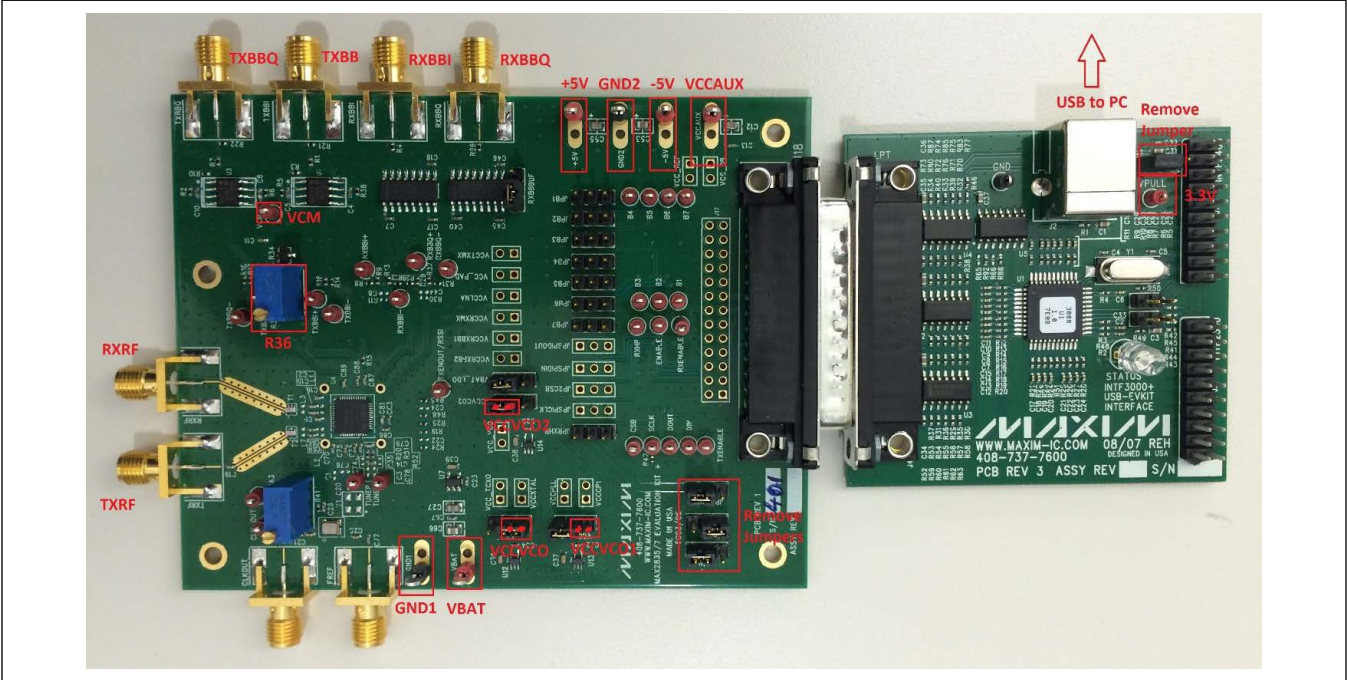

Figure 1. MAX2837 EV Kit Connections
The EV kit is fully assembled and factory tested. Follow the instructions below to test the device. This section provides step-by-step instructions for getting the EV kit up and running in all modes. See Figure 1 for EV kit connections:
- 8) Adjust the TX common-mode potentiometer (R36) until measuring 0.9V common-mode voltage at the VCM test point (see Figure 1 for locations).